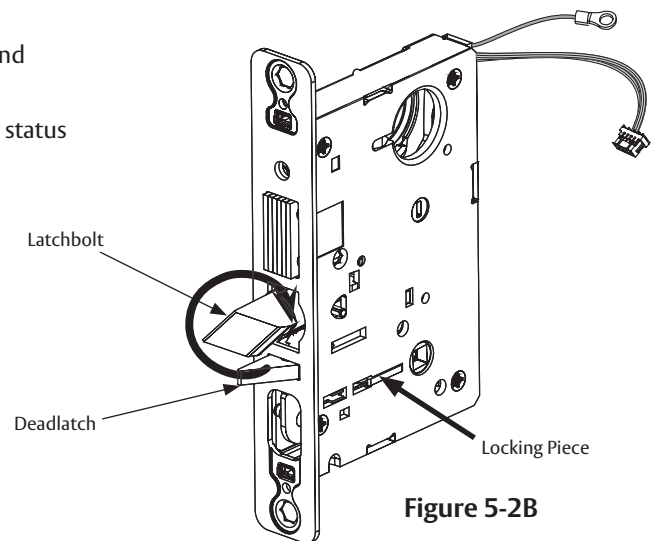

Figure 5-2B
- Rotate the latchbolt 180° (Figure 5-2B)